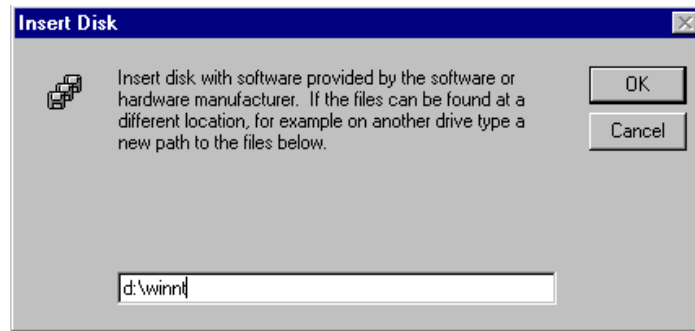

Figure 3-4. Insert Disk Dialog Box
4. The **Insert Disk** screen is displayed (Figure 3-4).